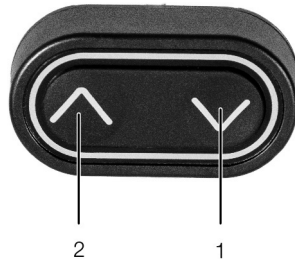

Fig. 1: Hand-held unit
The DESKLINE system is initialised by pressing the Down key on the hand-held unit (fig. 1, item 1). The key must be kept pressed until the drives have reached the lower limit position. Once all drives have stopped at the lowest limit position, the Down key must be released for 2-3 seconds and then kept pressed for a further 6-8 seconds. The initialisation is then completed. The system is lowered and raised again by 5 mm during the initialisation. Under no circumstances, release the Down key during the initialisation.